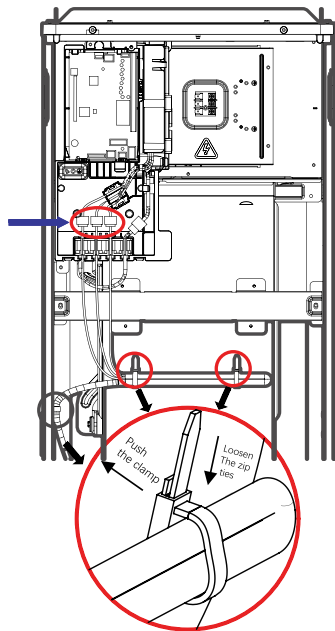

Fig. 1-6: Loosen the Zip Ties
5. Loosen the 3 reusable zip ties. See Fig. 1-6.